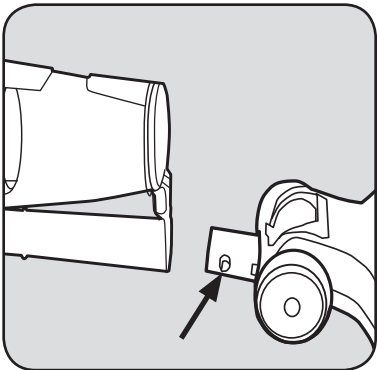

Fig. 3
3. Attach the floor nozzle to the neck of the dust cup ensuring the button on the nozzle neck locks into place. (Fig. 3)